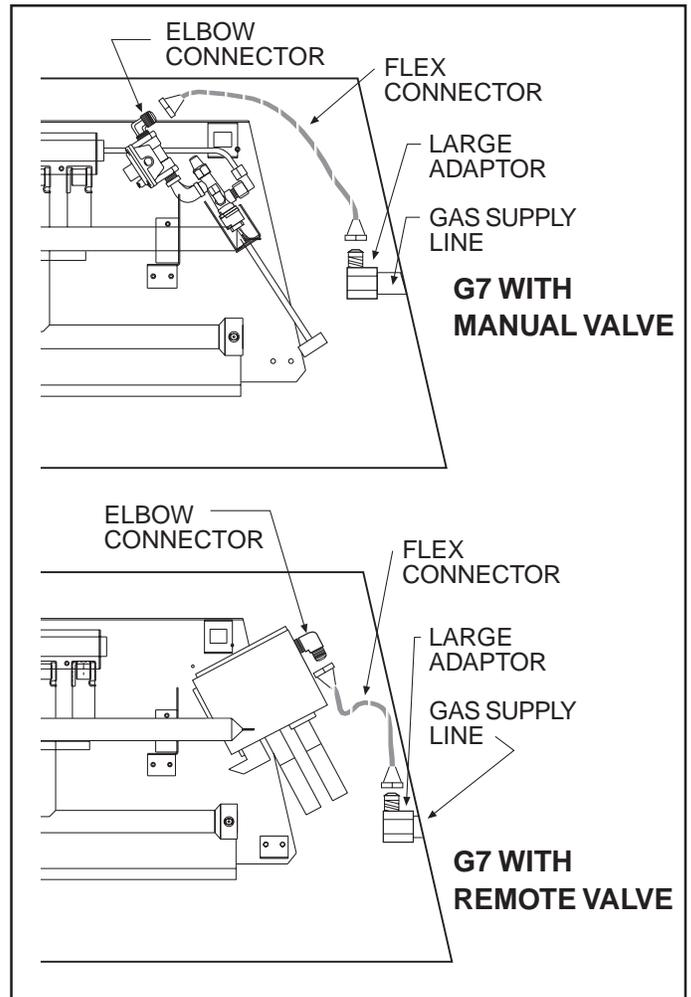

Figure 11
2. Attach the large adaptor fitting of the flex connector kit (item 19 on Manual Valve, item 20 on Millivolt valve) to the gas supply line using pipe compound resistant to L.P. gas or Teflon tape. Tighten the connection. Connect one end of flex connector to the large adaptor, and the other end to the elbow connector on the burner assembly (see Figure 11).